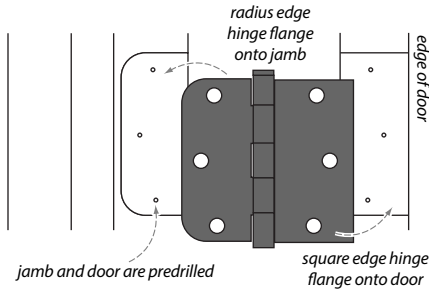

Figure 2
- 2) Attach hinges to jamb and hinge jamb to door using screws provided (figure 2).